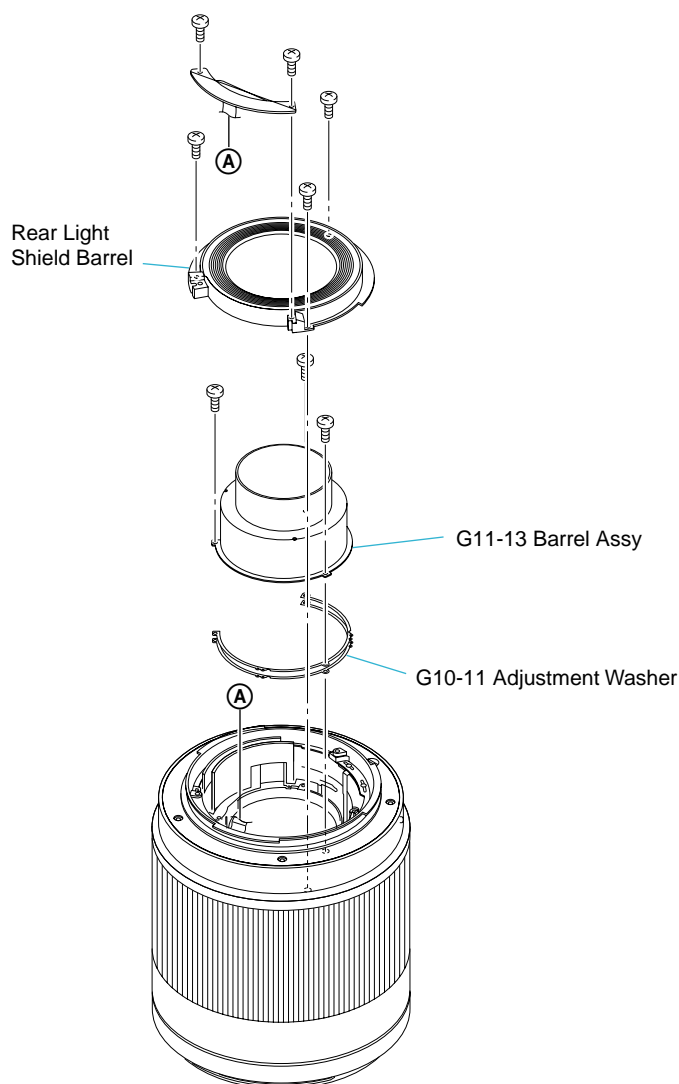

Fig.4-6-2
- 1) Adjust the G10-11 adjustment washer thickness according to the result of step 3) in “2. Checking Method”. (Refer to Table 4-6-1 and Fig.4-6-2.)